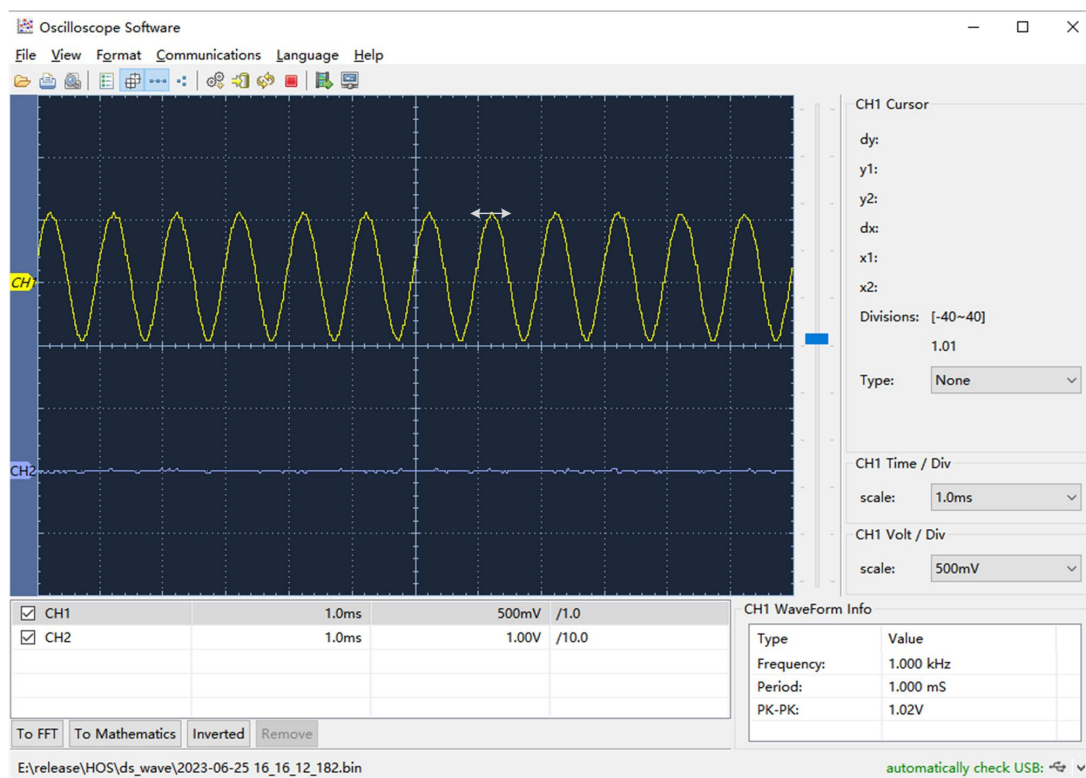

Fig 5-1-1
1. Operation for waveforms display range: (Fig 5-1-1)
(2) Waveform move left and right: Move the mouse to the waveform, it becomes icon, then drag the mouse to make the waveform left and right as Fig 5-1-1;